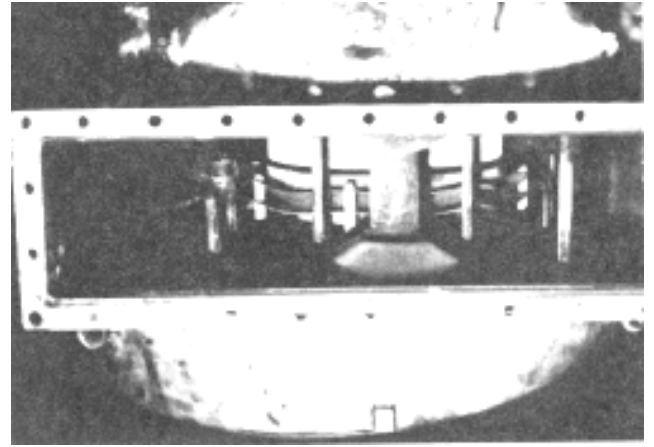

Fig. 15-19 - View Down The Exhaust Stack - Warped Diffuser
2. Viewing down the exhaust duct; the exhaust diffuser may be warped and the shroud may be bulged. Both may be torn by broken blades, Figs. 15-19 and 15-20.